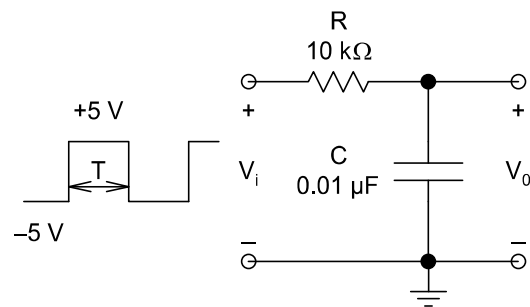

Figure 1 RC Integrator Circuit
Wire the circuit of Fig.1. Connect signal from the OUTPUT socket of the FG to the RC circuit, and also to the CH-1 input of the DSO. Choose square wave signal and adjust the amplitude control to obtain a waveform going from  $-5\text{ V}$  to  $+5\text{ V}$ . Connect the output of the RC circuit to CH-2 input of the CRO. Be sure to choose the **DC** mode for both CH-1 and CH-2 inputs so as to observe the dc levels of the signals. Use DSO to set the frequency of FG.
2. Set up the scope to display on both channels and connect the points indicated in Fig.1(a) to the respective channels.
7. Repeat the above steps. for the *RL* circuit in Fig.1(b). Now take readings of amplitude and phase at 2kHz, 5kHz, 10kHz, 20kHz, 50kHz, 100kHz, 200kHz, 500kHz.